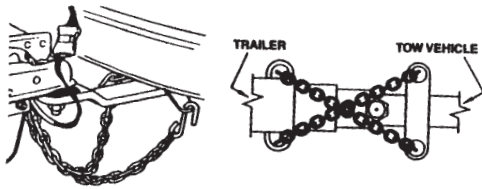

Figure S14: Crossing the Safety Chains/Cables
9. Safety chains or cables (depending on which model you have) are provided and must be used. Cross the safety chains/cables under the coupling and attach to the towing vehicle's frame or bumper. See Figure S14. Always allow slack for turns. Four Winns provides securement clips for the safety chain/cable hooks and recommends you use them. Regulations vary from state to state. Please check the local laws in your state.